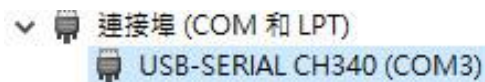

Figure 3-1
- (3) Supported Hardware Model No.:
- (4) Supported software version:
- (5) Supported Operating system:
- (6) Apply the following interface mode:
- USB COM Port mode, USB device drivers for Windows operating systems. (Figure 3-1)